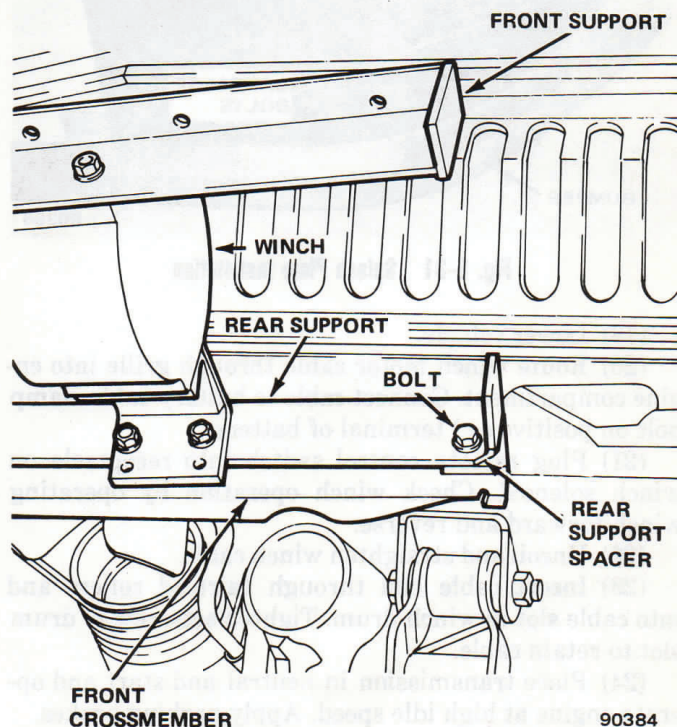

Fig. 5-29 Winch Mounting
(10) Place assembled winch and mounting components on transmission jack. Use chain hoist or helper to lift and place winch on jack.
(11) Raise winch with jack and position rear support against front crossmember (fig. 5-29). Insert rear sup-
port spacers at each end of support between crossmember and support (fig. 5-29). Align bolt holes in support, spacers, and crossmember. Attach support to crossmember using  $1/2 \times 1-1/4$  bolts, lockwashers and nuts. Tighten bolts to 41 foot-pounds (55 N•m) torque.